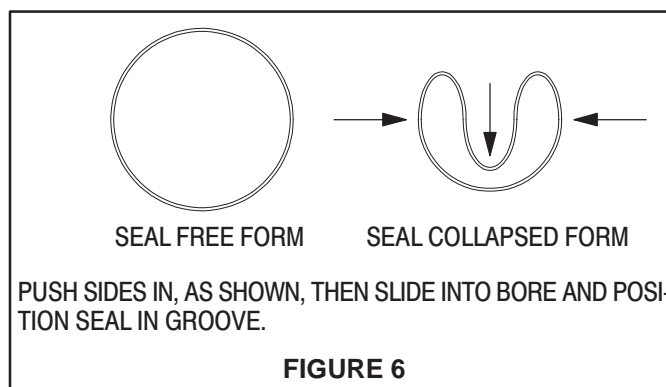

FIGURE 6
- Push the (23) piston assembly to the top of the (27) air cylinder.
- Thoroughly grease and install the (45 and 20) "O" rings into the (18) head assembly.
- Thoroughly grease the two (17) "O" rings and install one in the (30) air motor base assembly. Install the other in the (18) head assembly.
- Press the (28) tube into the counterbored hole in the (30) air motor base assembly.
- Push the (40) extension rod thru the (45) "O" ring in the base of the (18) head assembly.
- Press the (18) head assembly down until the (27) air cylinder and (28) tube are seated in the (18) head assembly.
- Insert the four (46) bolts down thru the holes in the flanges of the (18) head assembly and the (30) air motor base assembly.
- Screw the four (50) nuts on the four (46) bolts. Alternately and evenly tighten the nuts.
- Thoroughly grease and install the (19) "U" cup in the (42) piston adapter, with the lips of the (19) "U" cup down toward the thick flange on the (42) piston adapter.
- Thoroughly grease and install the (39 and 15) "O" rings in the (37) upper gland.
- Bend the (38) seal in a heart shape and install in the (37) upper gland inside the (39) "O" ring (see figure 6).